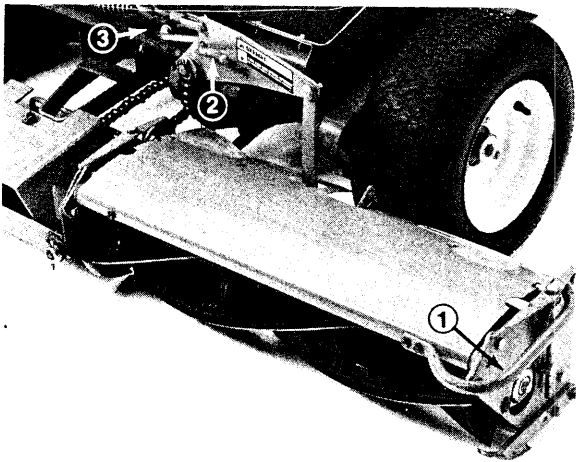

Figure 14
3. Get off seat, stand at end of each front cutting unit, grasp reel guard and lift end of unit up until transport latch drops into locking slot in transport arm bracket (Fig. 14).
2. Get off seat, stand at end of each front cutting unit, lift up on reel guard, press down on transport latch handle until it comes out of locking slot and lower cutting unit (Fig. 14).